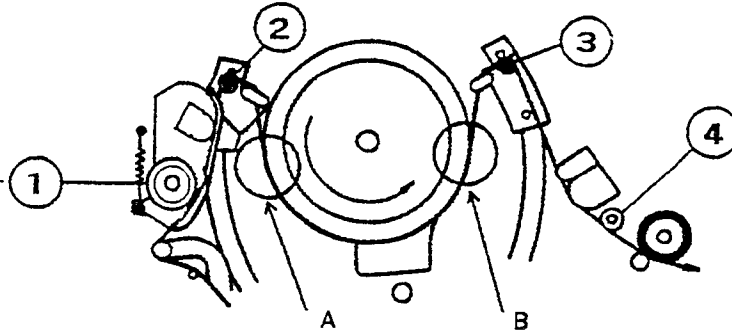

Fig. 5-1
2. Load a blank tape and set the VCR to the PLAY mode. Check the tape transport at points "A" and "B" as shown in Fig. 5-1.